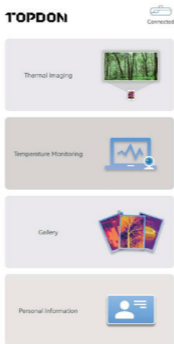

Figure 3.1.3
3. Open the TC002 app. The icon at the top right of the home screen displays "**Connected**" (see figure 3.1.3).